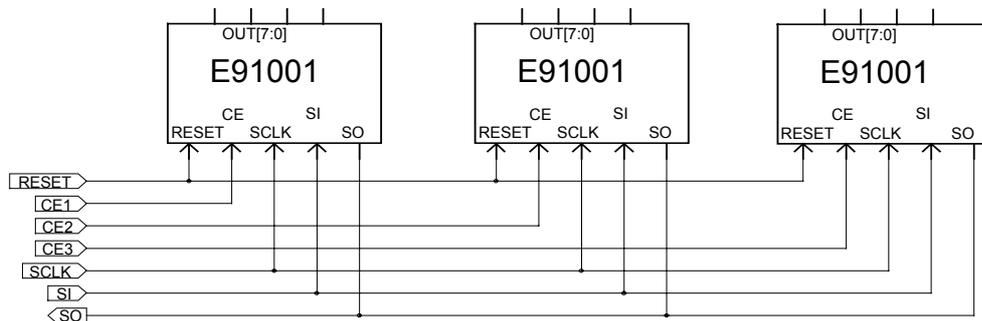
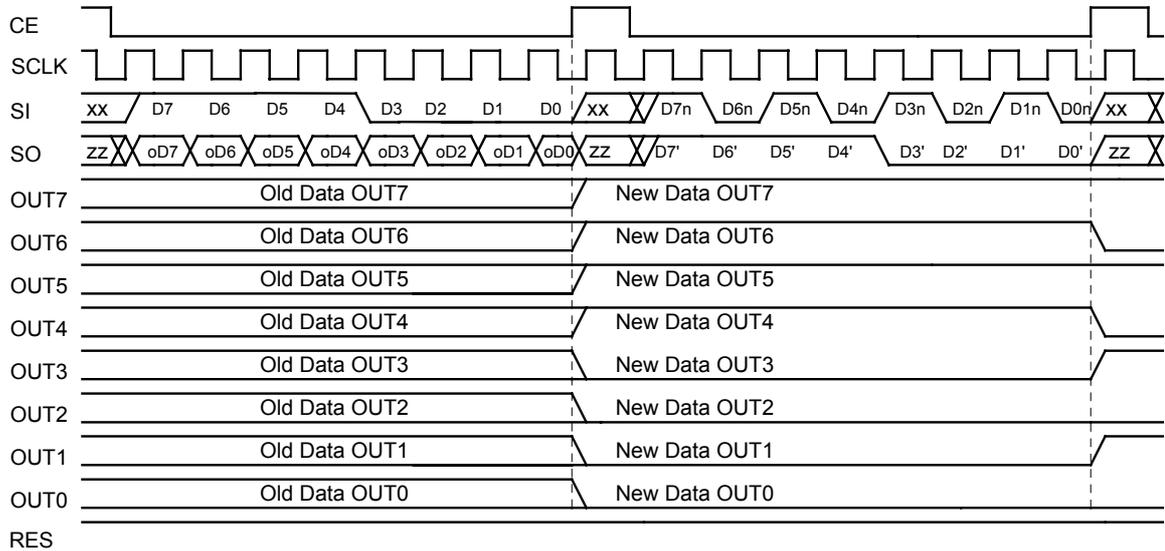

Figure 4.2-1
Figure 4.5-1
a) Parallel data input (see Figure 4.2-1 and Figure 4.5-1)